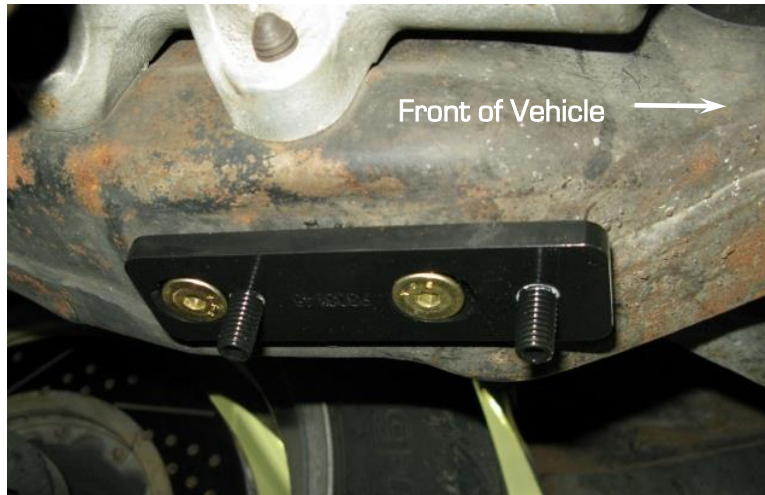

Figure 2 - Mounting the Adapter Plate (1964-67 A-Body)
3. Place the provided frame adapter plates on the frame. The countersunk slotted holes are used to mount the adapter plates to the frame. Thread the 3/8"-16 x 3/4" L Countersunk Socket Head Bolts into the frame using Medium Strength Blue Loctite 242 and torque the bolts to 35 ft-lbs. **NOTE:** The plates need to be positioned so that the studs are closest to the front bumper. The countersunk holes in the adapter plates are slotted, so your bolts will not be centered in the slots. Refer to Figure 2 for reference.